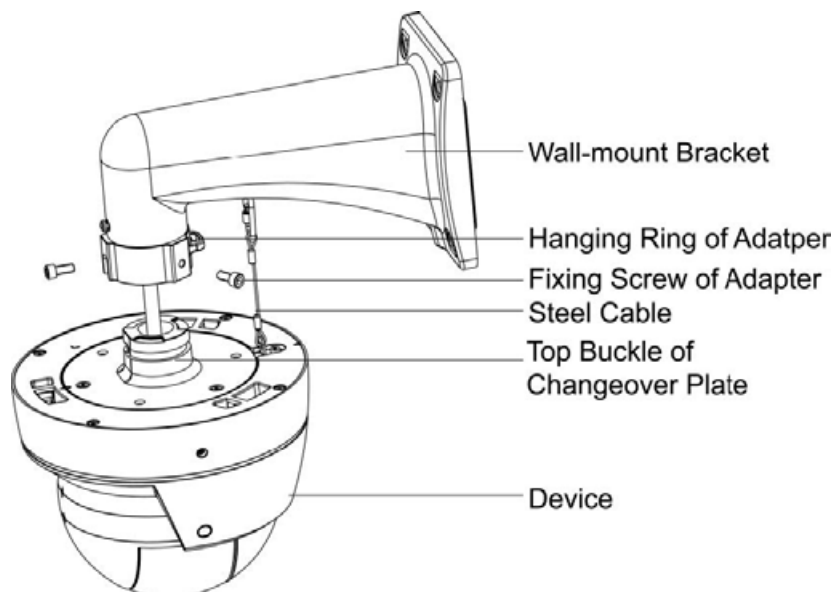

Fig 2.4
8. Align the top buckle of the changeover plate with the internal holes on the adapter, followed by firmly tightening the fixing screw on the adapter (See Fig 2.4).